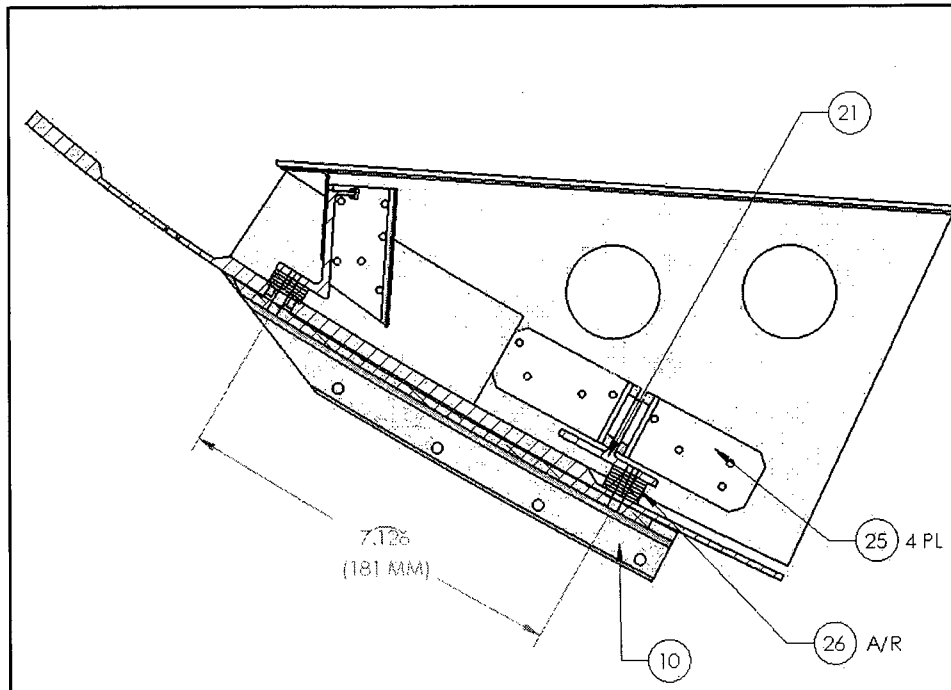

Figure 5.4: Tee and Clips Fitment
- 5.7 Temporarily install Lower Rail (F/N 10) as guide for locating the Tee (F/N 21) and Clips (F/N 25). Position Tee and Clips and temporarily install as shown in Figure 5.4.
Parts List for Figure 5.4: